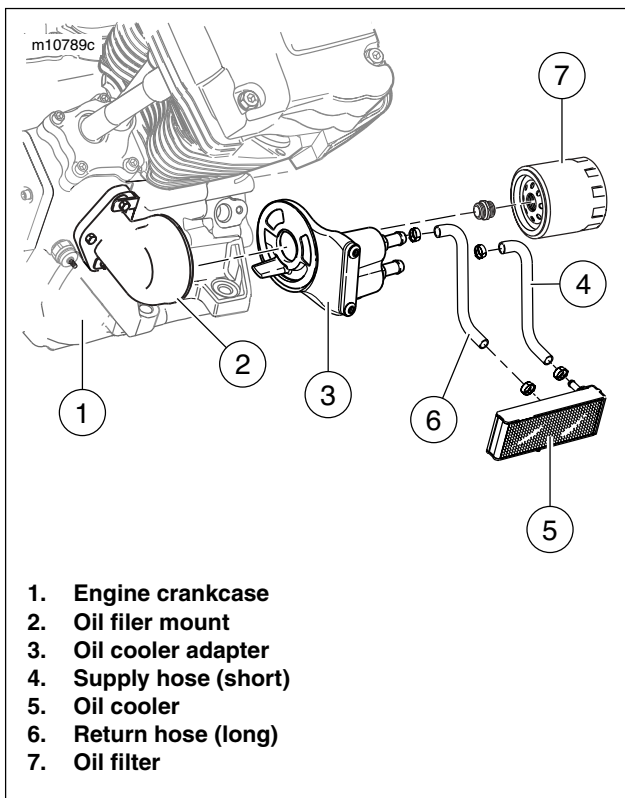

Figure 1. Oil Cooler Operation
See Figure 1. Under pressure from the engine crankcase (1), oil flows from the crankcase oil filter mount (2) into a passage in the oil cooler adapter (3).